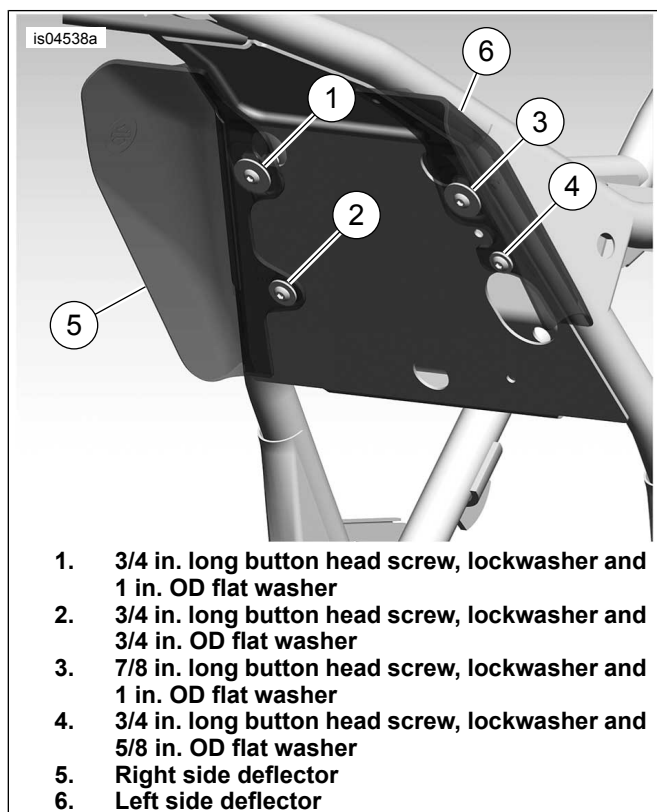

Figure 4. Fastener Locations - View of Frame Rearward of Rear Cylinder, Engine Removed for Clarity
3. See Figure 4. Install right side deflector (5) using screw, lockwasher and washer (1). Do not tighten.
4. Install screw, lockwasher and washer (2). Do not tighten.
6. Install left side deflector (6) using screw, lockwasher and washer (3). Do not tighten.
7. Install screw, lockwasher and washer (4). Do not tighten.